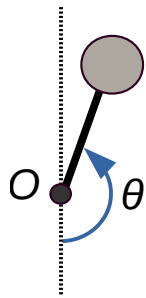

Figure 2: The angle  $\theta$  is equal to 0 when arm is in the bottom position and is equal to  $\pi$  in the upright position.
- a) Implement the position discretization. The input may be outside the interval  $[0, 2\pi]$ , so be sure to wrap the state around (hint: use the `mod` function). The resulting state must be in the range  $[1, \text{par.pos\_states}]$ . This means that  $\pi$  (the “up” direction) will be in the middle of the range. See the pendulum model shown in Figure 2.